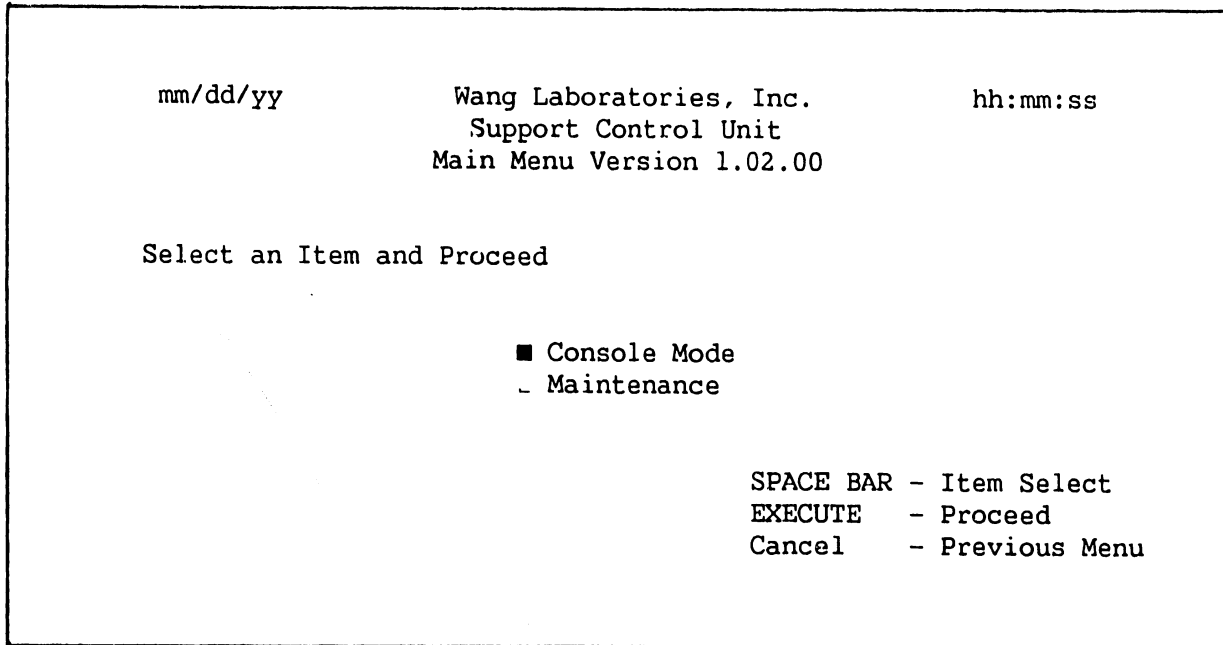

Figure 4-32. SCU Main Menu
4. After the system is powered up and IPLed, press the space bar until Console Mode on the SCU screen is highlighted. (Figure 4-32.)